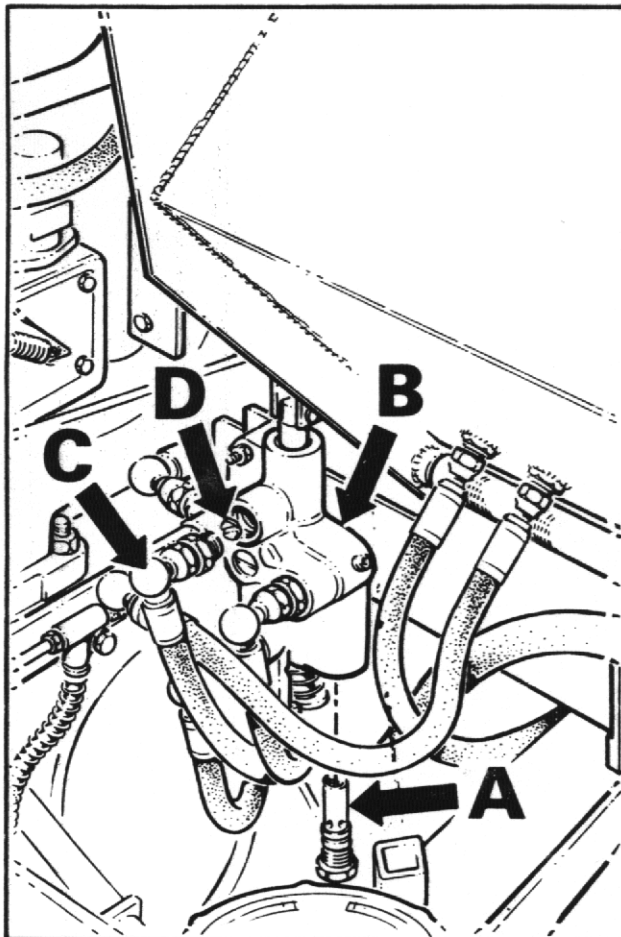

FIG. 8
4. Remove relief valve cartridge (A) (hexagon head) from the bottom of the Control Valve (B) (See Fig.8) and replace with a new one
5. Remove hose adaptor (C) from control valve (See Fig.8), remove hexagonal orifice plate (D) and wash in white spirit. Dry using moisture-free compressed air. DO NOT poke wire etc., into the orifice. Re-fit plate and hose adaptor with slot of orifice plate facing outwards.